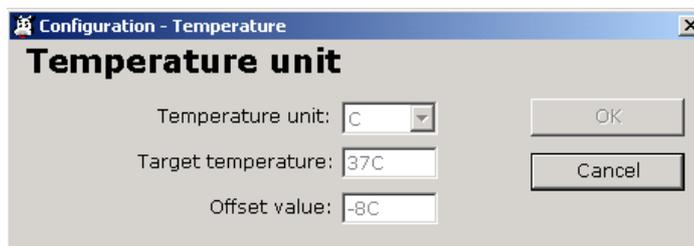

Fig. 11.7-1 : Temperature unit
- (1) Click “Configuration” -> “Temperature”. The ‘Temperature Unit’ screen comes up (Fig. 11.7-1).